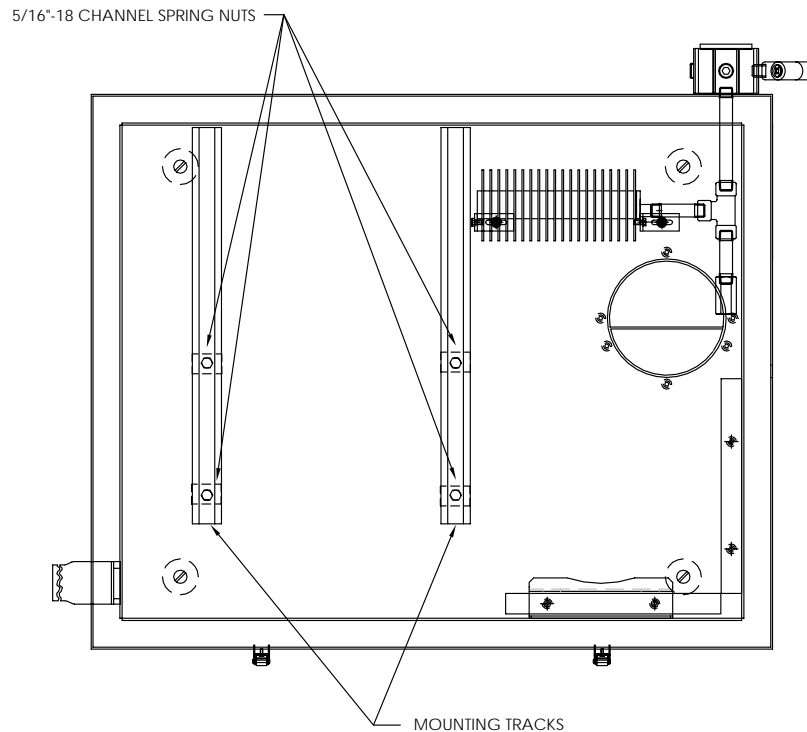

Figure 13 Cold Weather Enclosure Interior
- 1) Place Btu Transmitter inside of the Cold Weather Enclosure, oriented so that Sample Filters face the front and slotted mounting holes align with mounting tracks (see Figure 13).